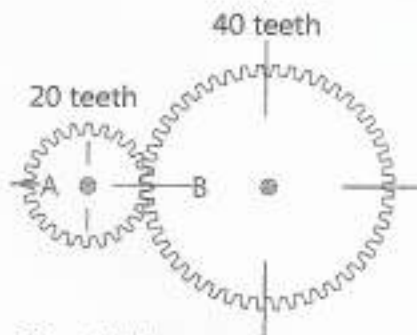

Figure 11.26
3. Study the diagram in Figure 11.26.